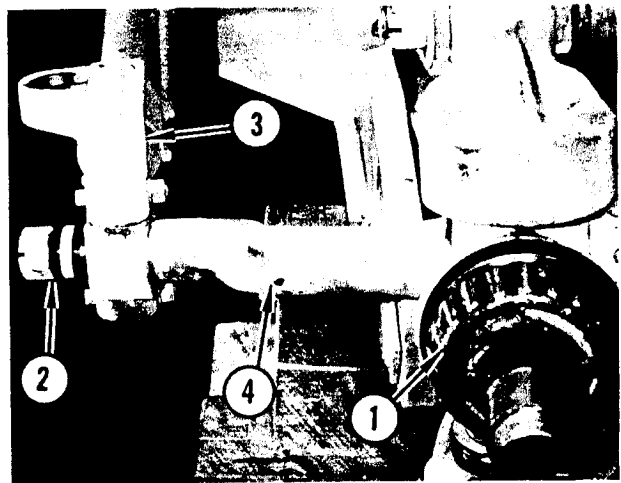

FIGURE 3. STEERING ARM DISCONNECT
Refer to Figure 3. Using a bearing puller, remove inner bearing cone (1). Remove cotter pin from slotted nut (2). Remove slotted nut and washer (2) from steering arm (3). Remove tie rod (4) from steering arm.